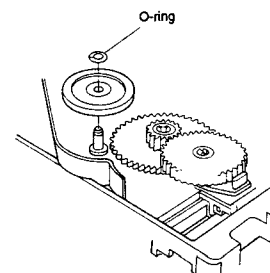

Figure 40
- (3) Insert the pulley into the shaft, and fix it with an O-ring as shown in Figure 40.